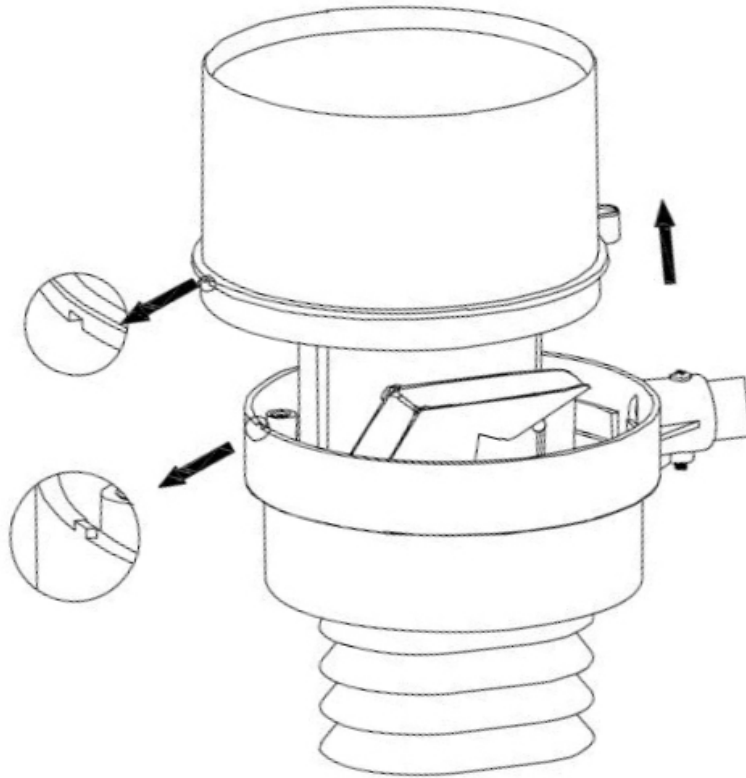

Figure 42
2. Pull the rain gauge funnel from the assembly as shown in Figure 42.